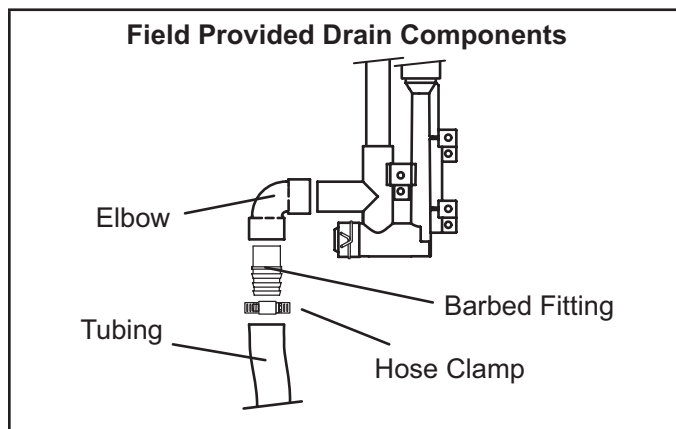

FIGURE 43
**NOTE** - Appropriately sized tubing and barbed fitting may be used for condensate drain. Attach to the drain on the trap using a hose clamp. See FIGURE 43.